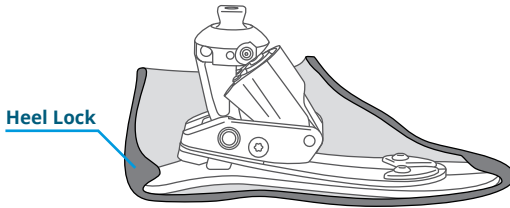

Figure 4
- Push the foot shell up onto the heel or, if necessary, insert a shoehorn into the foot shell and allow the heel to slide down a shoehorn into the heel lock. The heel must lock (Figure 4) in place for proper function and safety.